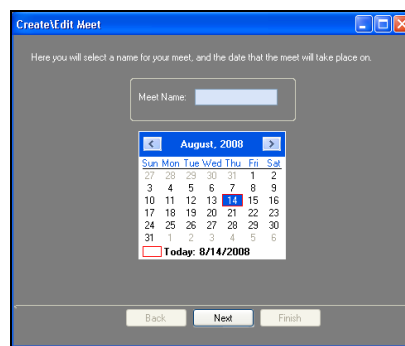

Figure 103: Create/Edit Meet Window - Set Name and Date
3. Click **Create A Meet** to begin a setup wizard to add new meets (*Figure 103*).